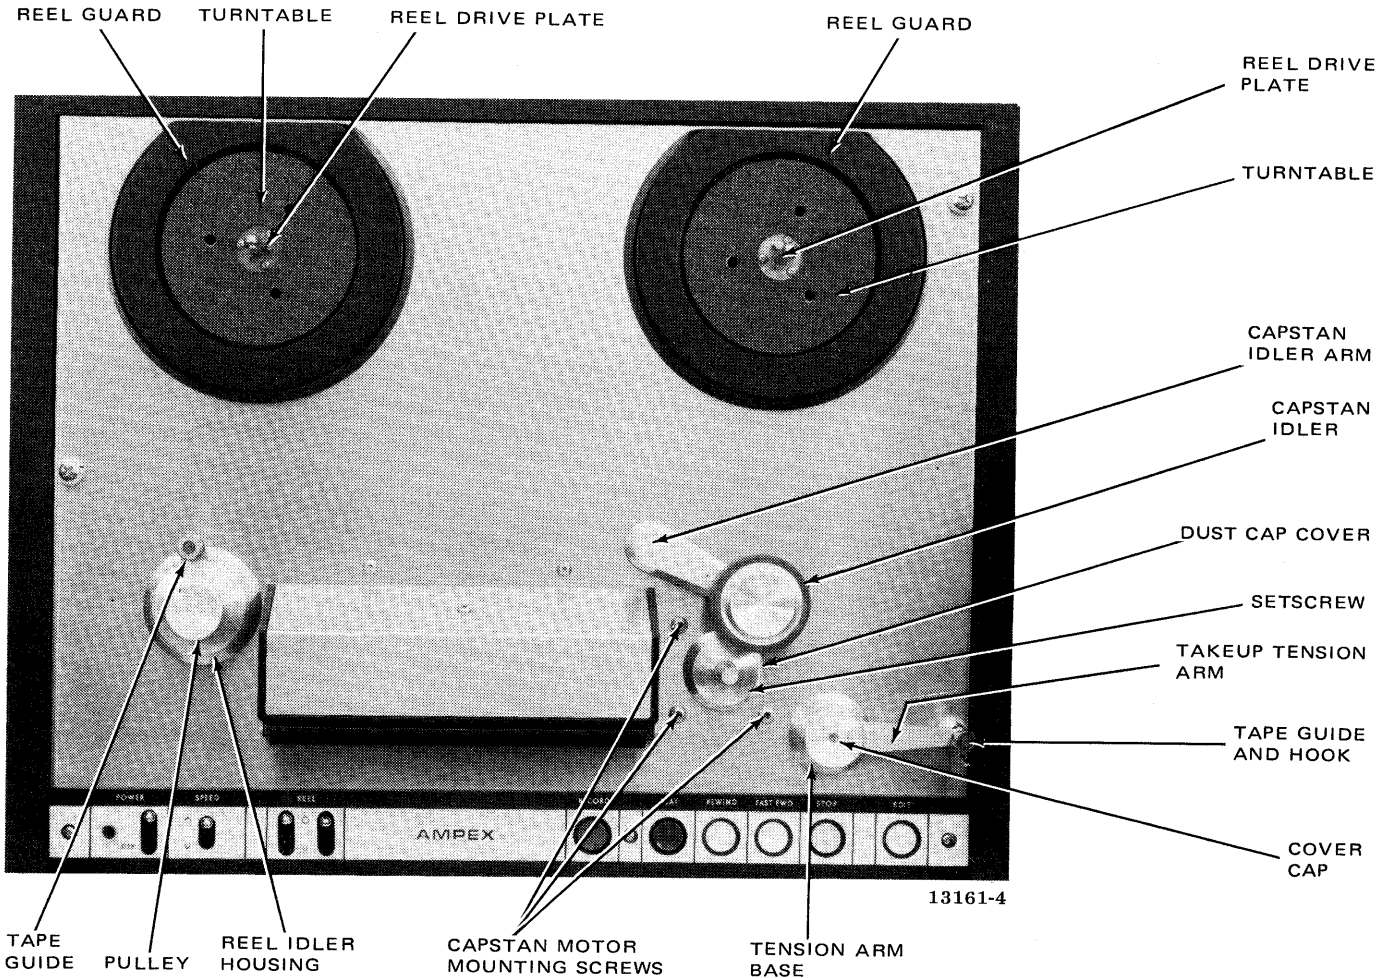

Figure 5-13. Tape Transport Components (Top View)
The capstan idler (Figure 5-13) is removed from the idler arm by loosening the retaining setscrew. Instructions for removing the idler wheel from the idler shaft are given later in this section under the heading *Idler Assembly Replacement*.
The takeup and rewind assemblies are each secured, through slotted holes in the top plate, to the reel guards (for quick conversion to 11-1/2-inch CCIR reels). When either assembly is removed, the reel guard (Figure 5-13) will also be released.
A reel drive plate (Figure 5-13) in the center of each turntable has three extrusions which mate with the EIA reel hubs. Three screws secure the plates to the turntable. To replace the drive plate, remove the three screws, lift the plate from the spindle, place the new drive plate in position, and reinstall the screws.
2. Remove the capstan dust cap cover from the DC motor by loosening the setscrew (Figure 5-13), pushing the capstan idler back, and lifting the dust cap from the capstan shaft. For an AC motor, use a knife blade or similar tool and gently pry the dust cap cover off from the top plate.
To remove the tape guide from the reel idler arm, unscrew the spring-loaded screw (Figure 5-13), then remove the guide, screw, spring, and flat washers (used as shims). To install the tape guide, insert the spring and screw in the top of the guide, and install all of the washers; seat the guide slot (in the bottom) over the spring pin on the arm, and tighten the screw.
The pulley (Figure 5-13) is held in the reel idler housing by the reel idler flywheel (Figure 5-14), which is secured to the pulley shaft by a setscrew. The setscrew is in the side of the flywheel toward the transport, and must be found by touch. Rotate the flywheel so the pulley shaft flat is toward the outer edge of the rewind motor. Insert a 3/32 Allen wrench (with a handle and long-shaft) past the outer edge of the rewind motor, and then into the setscrew hole by touch. If the transport is face down, manually support the reel idler pulley while loosening the setscrew and removing the flywheel, then slide the pulley and pulley shaft out of the housing.